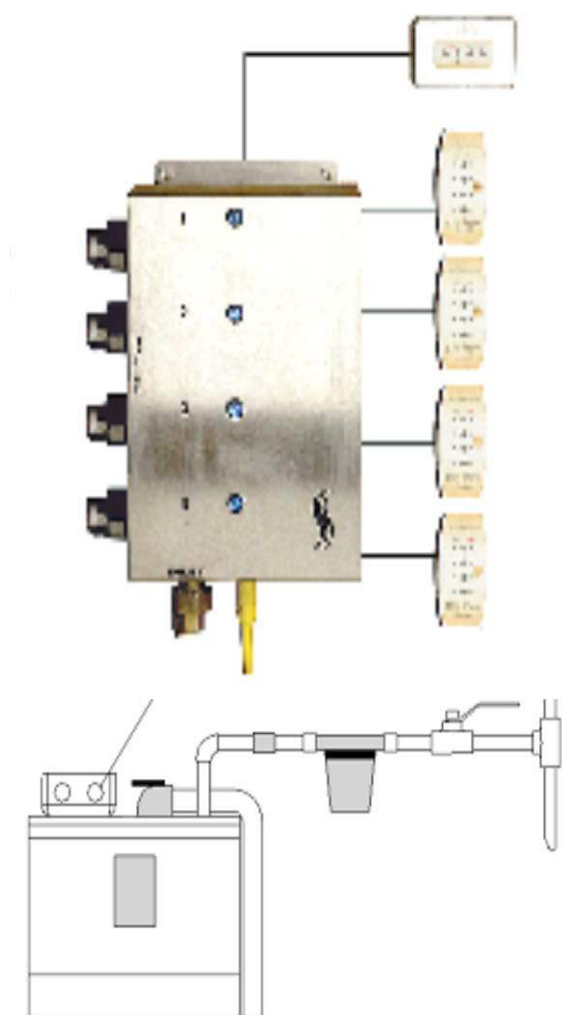

Figure 3
7. Connect a tee to the cold water line. Install copper pipe to the tee (**see Figure 3**).